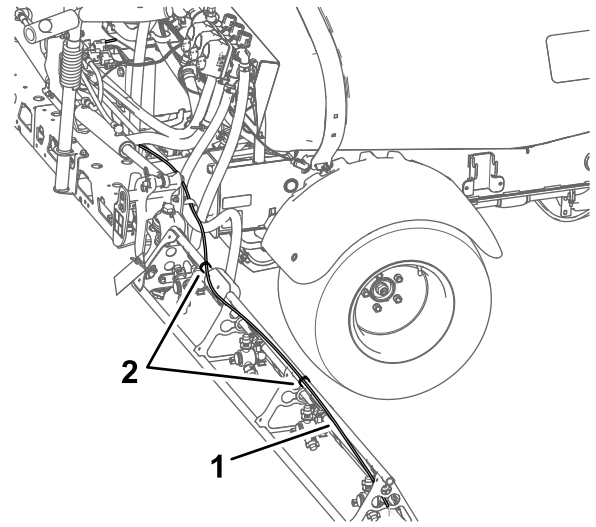

Figure 30
4. Route the tube assembly along rear side of the upper support pole of the outer-spray section as shown in Figure 30.
6. Secure the tube assembly to the outer-spray section with cable ties as shown in Figure 30.